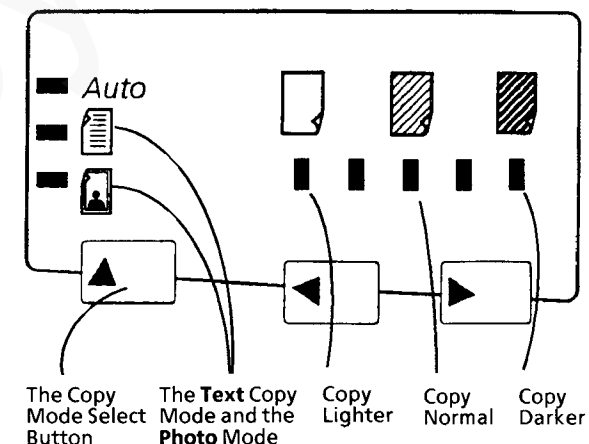

Figure 3. Selecting the Modes
7. Select copy darker and press the Start button in order to make a copy (Figure 3).
9. Select the Photo mode (Figure 3).
14. Press the Auto mode (Figure 3).